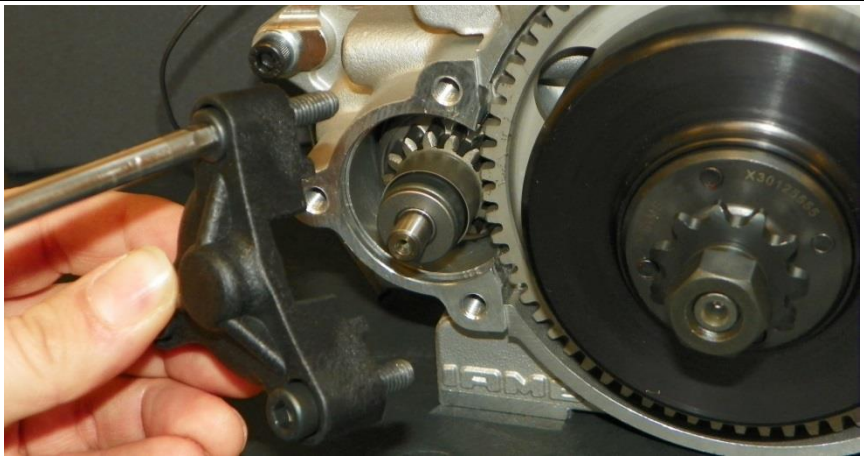

Fig.23
- PLACE THE STARTER IN SEAT (see Fig.23). PUT SOME OIL ON THE O-RING TO EASE INSTALLATION N°3 SCREWS TCH M6x35 TORQUE AT 8÷10 Nm (70÷90 in-lb)
- INSTALL THE ADDITIONAL SUPPORT (N°3 SCREWS M6x25) AND TORQUE THE SCREW M6x30 ON THE SUPPORT (see Fig.23).